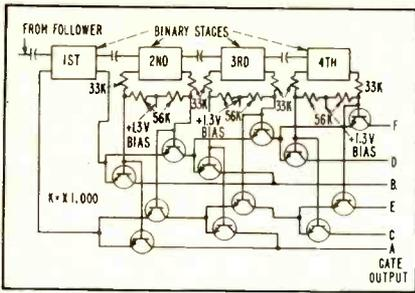

FIG. 4—Binary stages and transistor matrix. All transistor types are 2N146
By comparison of the peak-to-peak height *D* of the derivative curve on a number of materials of varying moisture content, with moisture as determined by standard laboratory methods, highly satisfactory correlations can be established for any material, see Fig. 4.
FIG. 4—Nuclear magnetic resonance signal amplitude is plotted against moisture content for unmodified corn starch (A), corn syrup (B) and chicle (C). When testing the same type of material no machine adjustments are required
output and using only six base windings, Fig. 4, some channels are repeated several times during the 48-channel frame.